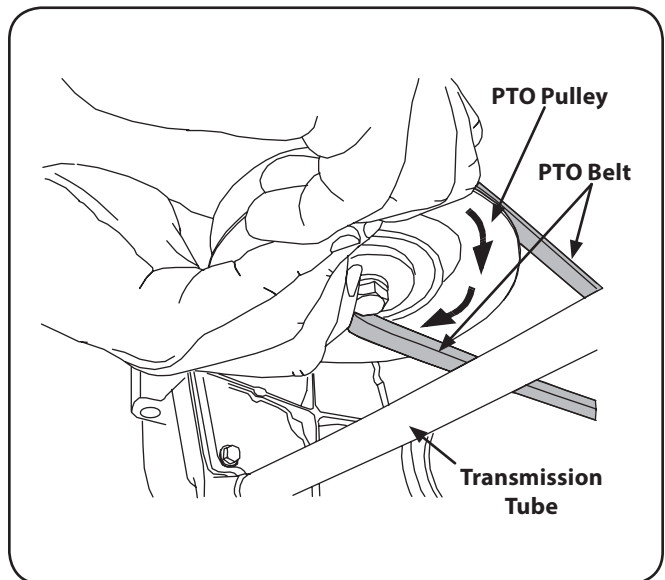

Figure 7-5
- d. While still holding the belt downward, continue turning the PTO pulley until the belt is rolled off the pulley. Refer to Figure 7-5.
11. Pull the right side of the belt rearward and place the narrow V side of the belt into the PTO pulley. See Figure 7-5.
12. While holding the belt and pulley together, rotate the pulley to the left (See Figure 7-5). Continue holding and rotating the pulley and belt until the belt is fully rolled into the PTO pulley.